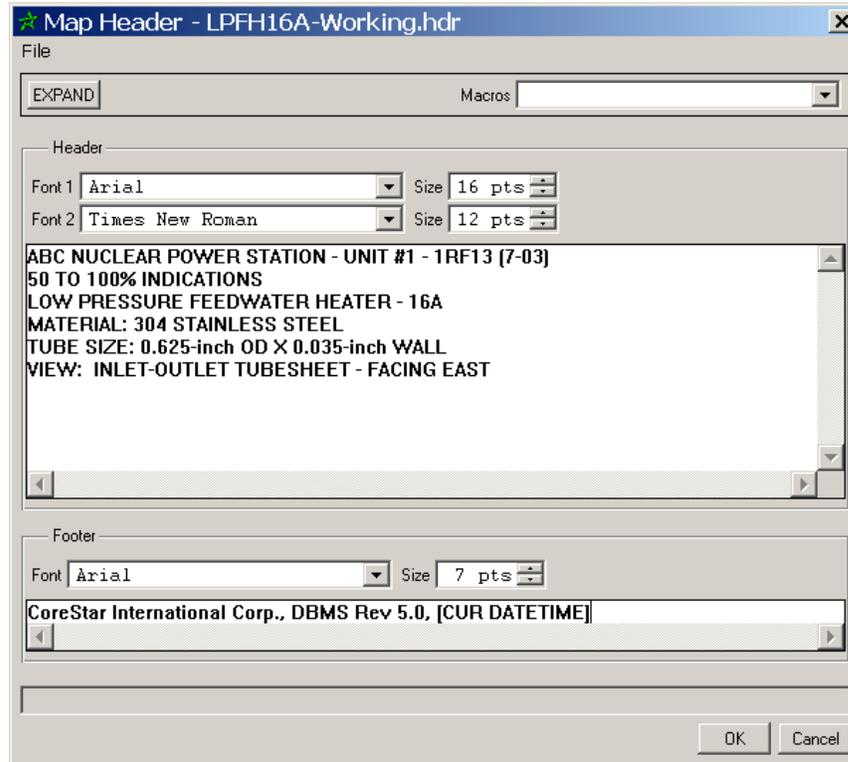

Figure 16-8. Map Header Dialog
STEP 7: The *Map Header* dialog should look like Figure 16-8. Click *OK*.